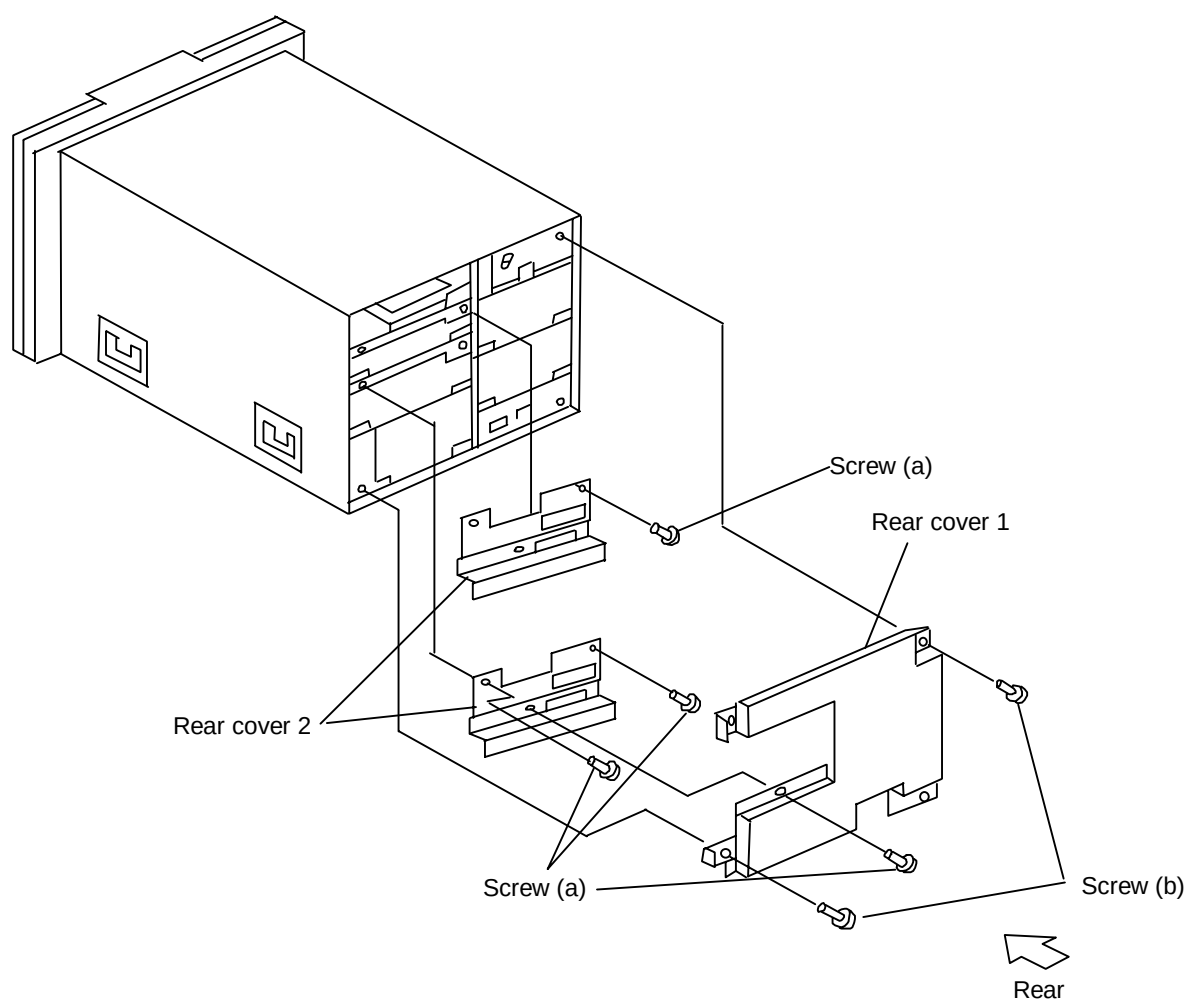

Figure 3.2.1 Opening/Closing the Rear Cover
(1) Removing procedure (See Figure 3.2.1.)
- ① Remove (a) screw and 4 (b) screws, and remove rear cover 1.
- ② Remove 4 (a) screws of 2 rear cover 2s, and remove rear cover 2s.
(2) Installing procedure. (See Figure 3.2.1.)
- ① Fix rear cover 2 then rear cover 1 in the reversed order as removing procedure.